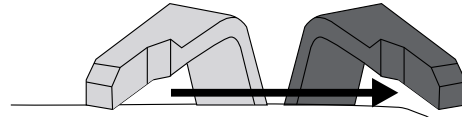

Figure 14 - Cold Start Choke Lever - OFF
9. After cold starting, as the engine starts and stabilizes, gradually move the choke lever back to the **OFF** position (see Figure 14 below).